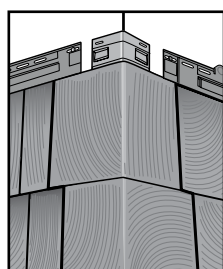

Figure 7
3. Once the panel has been fastened, hook the corner piece over the siding, making sure the corner piece is locked into the nail hem starter (*Figure 7*).